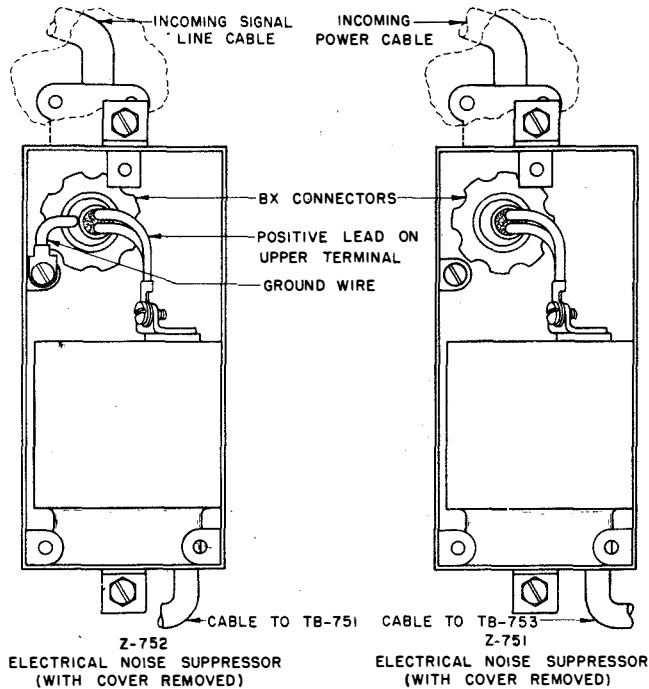

Figure 3-2. Power and Signal Line Connections
screws. Remove the insulator covers from the three terminal boards located in the upper rear portion of the Cabinet. Insert an a-c power cable through the large opening in the left rear corner of the lower shelf and up through the right BX connector in the center of the upper shelf. Connect the leads to the electrical noise suppressor as shown in figure 3-2. (For any specific installation refer to the applicable installation drawing.)
(2) Insert the signal line cable through the same opening in the lower shelf but through the left BX connector in the center of the upper shelf. For single loop operation (Keyboard and Automatic Typer in series), connect the positive (+) lead to the upper terminal and the negative (-) lead to the lower terminal of the electrical noise suppressor as shown in figure 3-2. For double loop operation (*not applicable to TT-171/UG*) as an alternate method (Keyboard and Automatic Typer separated) connect the SEND line as described above. Insert the RECEIVE line through the large opening in the left rear corner of the lower shelf and up through the $\frac{7}{8}$ inch hole in the upper shelf. Remove the white wire from the upper half of terminal 5 on TB-751 and connect it to terminal 7. Remove the black wire from terminal 10 and connect it to terminal 8. Connect the positive (+) lead of the RECEIVE line to terminal 5 and the negative (-) lead to terminal 10 of TB-751 as shown in figure 3-3.
(3) To relieve tension on the terminal connections, clamp the cables in place by means of the BX connectors. If additional thickness is required, friction tape may be wound around the cables at the clamping point.
(4) Replace the panel across the front of the lower section.
b. CABINET CY-871/UG.—Insert the power and signal line cables into the right and left BX connectors respectively. The connections are the same as described in paragraphs 4.a.(1) and 4.a.(2).
c. When installing any of the above sets, a ground wire should be brought in and connected to the Cabinet ground screw located just above terminal board TB-753 as shown in figure 3-3. The ground wire should also be connected to the signal line electrical noise suppressor ground terminal as shown in figure 3-2.